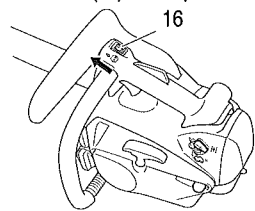

Fig. 13
2. Set ignition switch (16) to ON position. (Fig. 13)